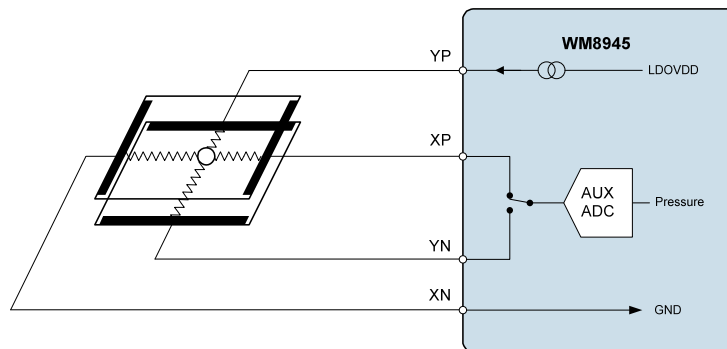

Figure 37 Z-axis (Pressure) Touch Panel Measurement
The configuration is illustrated in Figure 37. In this example, a constant current flows from the Top (YP) connection to the Left (XN) connection. The Right (XP) and Bottom (YN) points are measured in turn, and the difference, $V_x - V_y$ is equal to $I_p \times R_c$, where I_p is the current applied and R_c is the resistance between the plates. The smaller the measured resistance, the greater the pressure being applied.